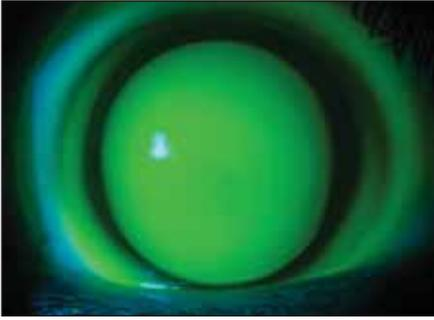

Figure 6: Optimal fitting of a SynergEyes KC lens showing total clearance of the cone with no bubbles
- Apical clearance over the central cornea with little / no touch in the RGP portion of the lens (Figure 6).